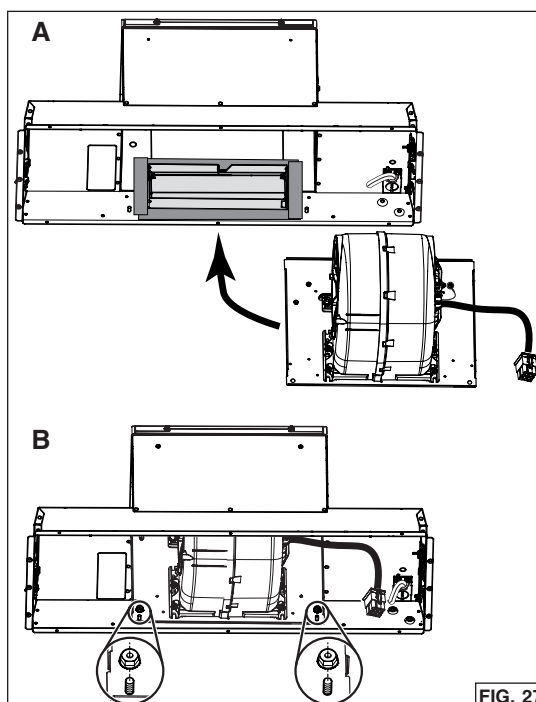

FIG. 27
- Insert the blower with its support plate inside the unit, where the back plate was initially (A). Attach to the unit using 2 nuts previously removed in step 8 on page 11 (B) (FIG. 27).